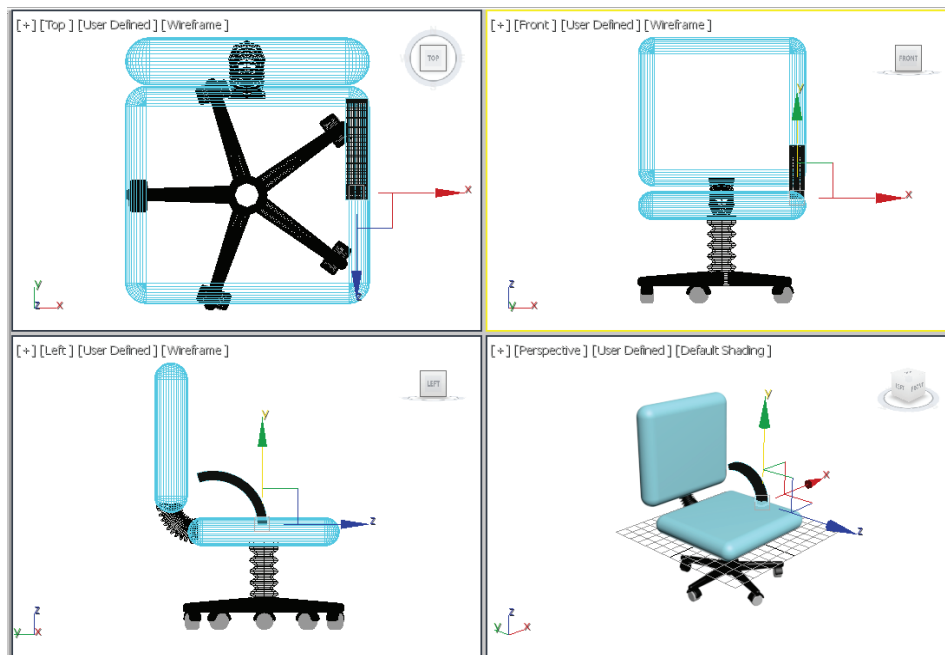

Figure 3-49 Alignment of *right hand support01* in viewports
8. Align *right hand support01* in all viewports, as shown in Figure 3-49.